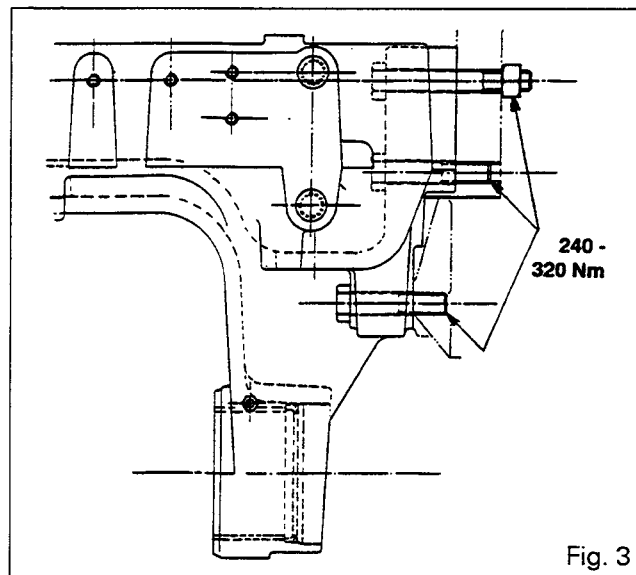

Fig. 3
- 4-cylinder engines: see Fig. 3,